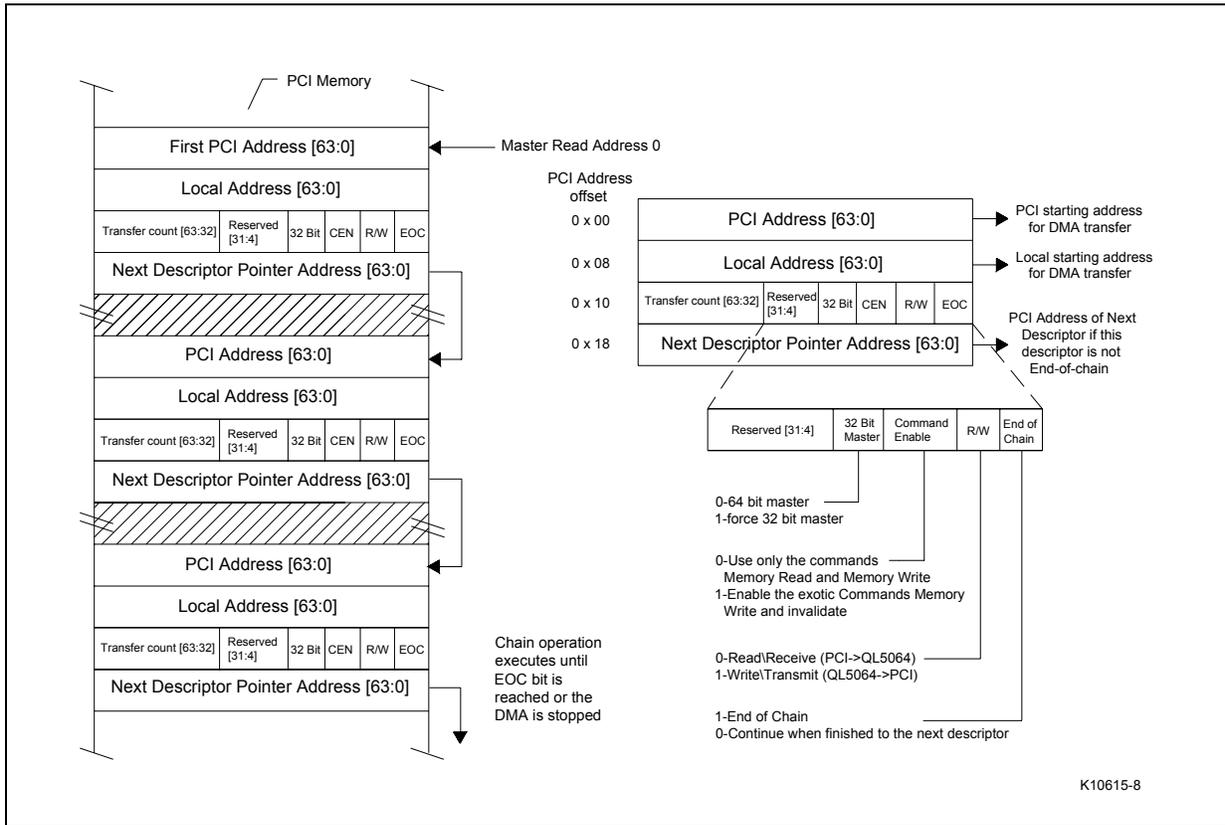

Figure 5 – DMA Chain Mode Descriptors
1. Write the chain mode DMA descriptor tables to PCI memory. The format of the Chain Mode DMA descriptor tables is given in Fig. 5. The requirements for Local Starting Address and Transfer Count in the chain descriptors are the same as for non-chain mode DMA. If the host is a "Big-endian" machine, it will be necessary to reorder the descriptor data, as described in section 5.3 above. The usual reordering required is byte order within 64-bit words. However, this may vary depending on the details of the system implementation.